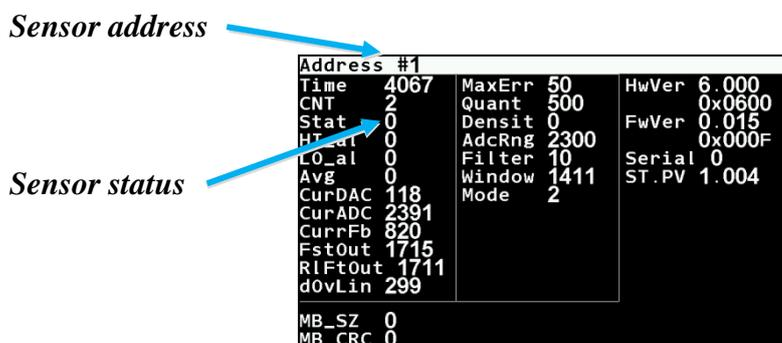

Figure 27
8. Ensure normal operation of the sensor: select the "**Registers**" item and press the "**Menu**" button. In the appeared window use the buttons "**Plus/Minus**" to select the current sensor address (see Figure 27) and check that the field "**Stat**" has the value only "**0**" or "**1**" (see Figure 27).